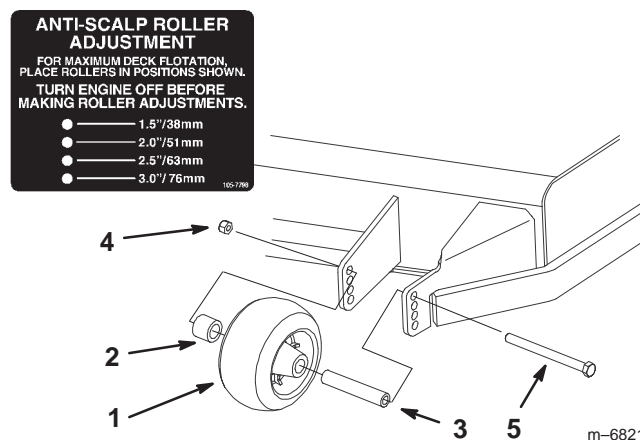

Figure 19
2. After adjusting the height-of-cut, adjust the rollers by removing the flange nut, bushing, spacer, and bolt (Fig. 19).
3. Select a hole so the anti-scalp roller is positioned to the nearest corresponding height-of-cut desired (Fig. 19).
4. Install the flange nut, spacer, bushing, and bolt. Torque to 40–45 ft-lb (54–61 N·m) (Fig. 19).